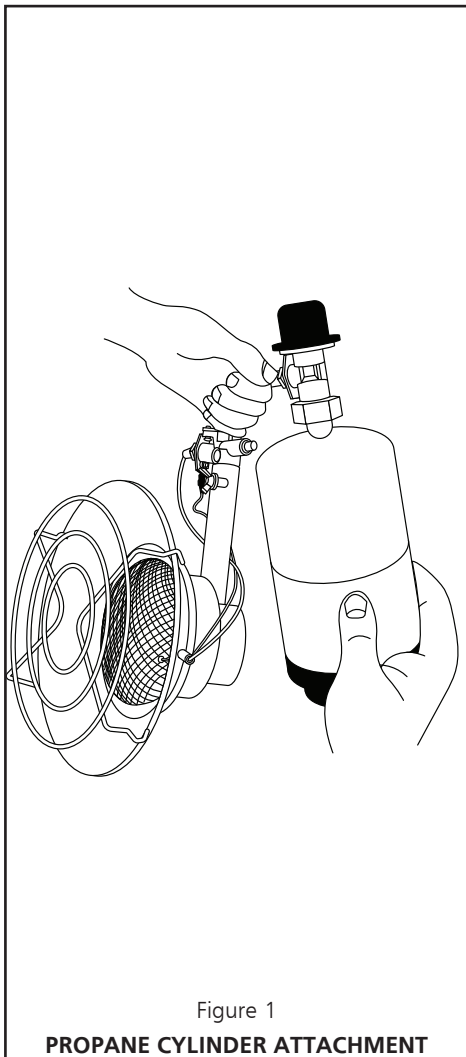

Figure 1
- 1.3 Hold heater in one hand and with the other hand hold propane cylinder vertically and carefully turn clockwise into heater valve-regulator until snug. (Careful not to cross-thread). See Figure 1.